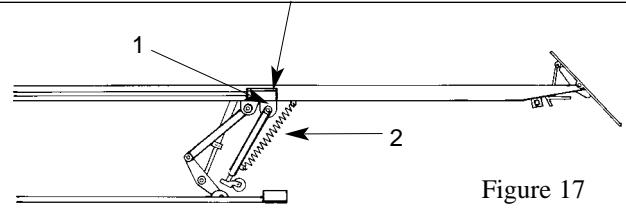

Figure 17
4. Press 'up' button on remote control switch to lift machine until there is no weight on stiff legs. Then swing stiff legs forward until they are at 30 degree angle from their vertical position. (See Figure 17.)